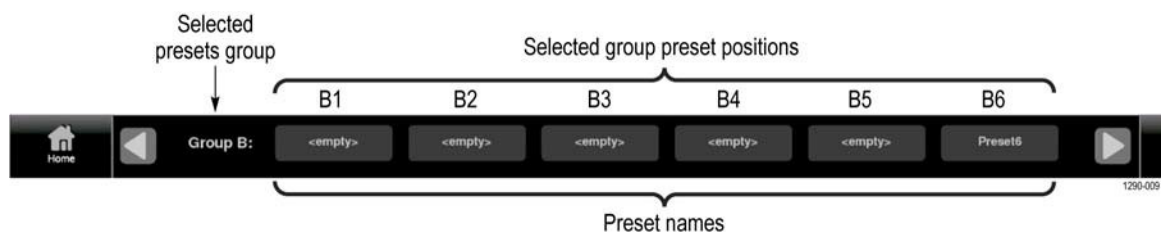

Figure 74: Preset selection controls (Group B shown)
1. Select the **Presets** icon (★) at the bottom of the PRISM display to open the Preset selection controls. (See Figure 74.)